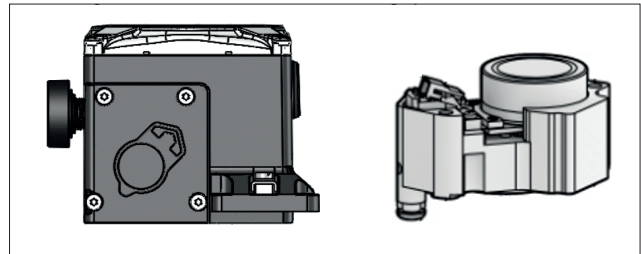

Fig. 81. NDX1510\_ prestage location.
- under prestage cover with prestage symbol (Fig. 81)
- Pull out the prestage carefully. It is recommended to use pliers to grab the grooves on the sides of the prestage. Be careful not to touch the moving parts of the prestage. (Fig. 81)